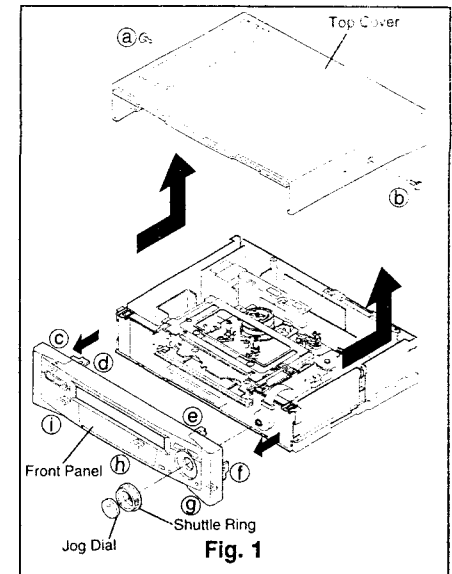

Fig. 1
- ① Remove the two Top Cover fastening screws (a) and (b) shown in Fig. 1 and remove the Top Cover in the direction shown by the arrows.
- ① Remove the Top Cover.